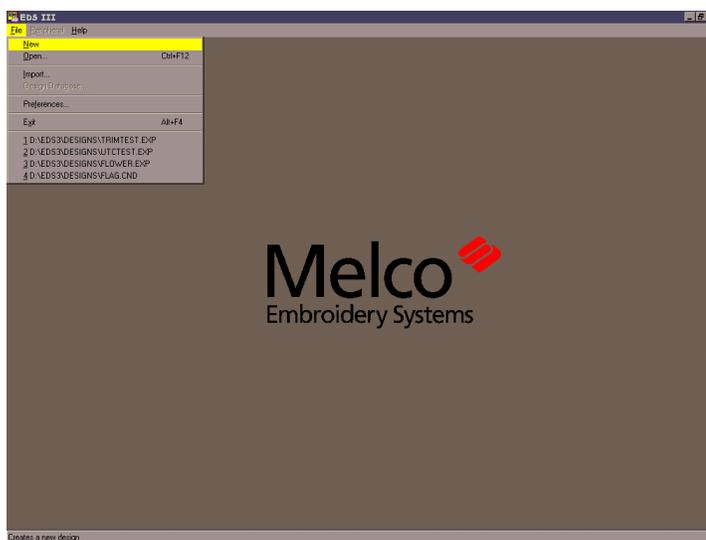

Figure 5-2
2. Click on the New menu item in the drop-down menu that appears (see Figure 5-2).